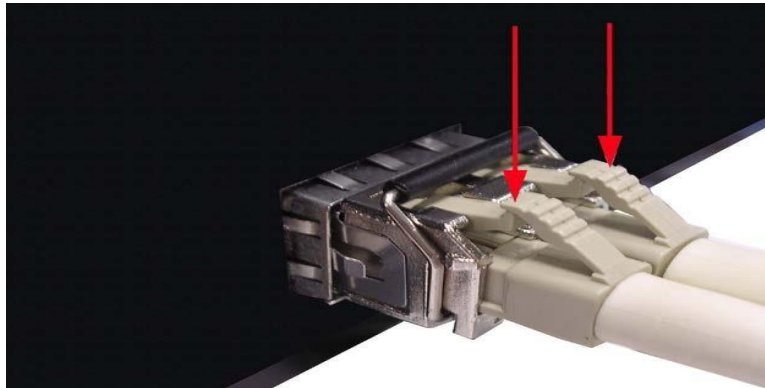

Figure 2.12
1. Press the upper side of the LC connector from the transceiver and pull it out to release as shown below in *Figure 2.12*.